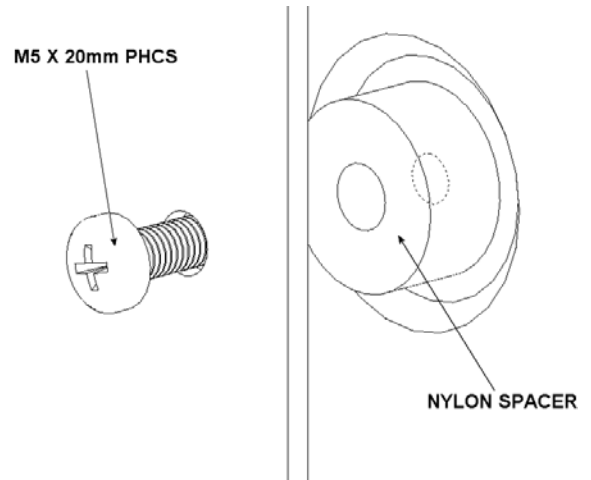

Figure 25. Spacer Installation for Group 8
3. Place the Nylon spacers over the four mounting holes on your Large Flat Panel display (see Figure 25).